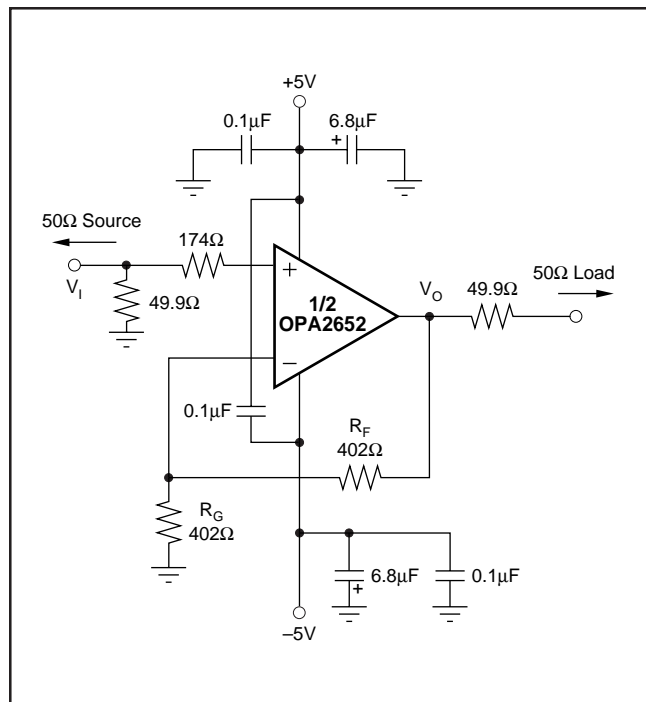
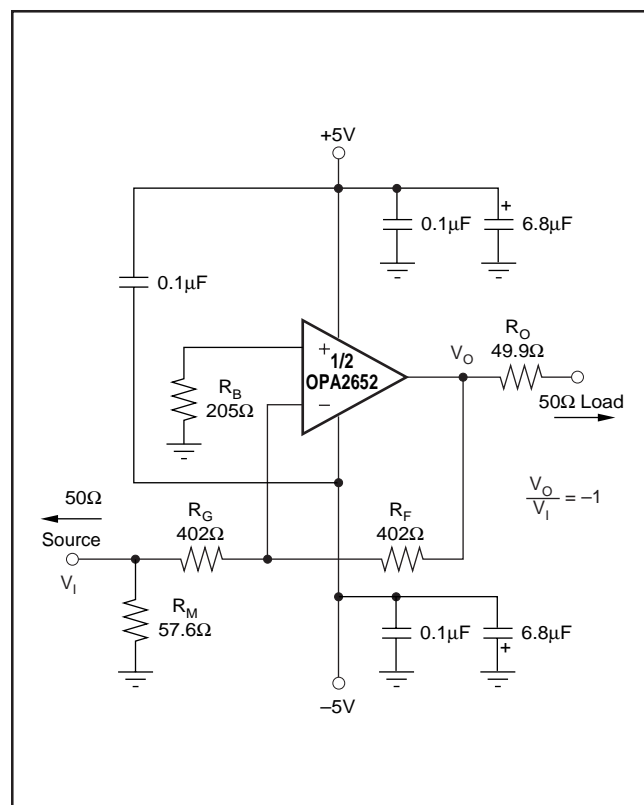

FIGURE 1. DC-Coupled,  $G = +2$ , Bipolar Supply, Specification and Test Circuit.
FIGURE 2. DC-Coupled,  $G = -1$ , Bipolar Supply, Specification and Test Circuit.
At  $T_A = +25^\circ C$ ,  $G = +2$ ,  $R_F = 402\Omega$ , and  $R_L = 100\Omega$ , unless otherwise noted. See Figures 1 and 2.
Figure 1 shows the DC-coupled, gain of +2, dual power supply circuit configuration used as the basis of the  $\pm 5\text{V}$  Specifications and Typical Performance Curves. This is for one channel. The other channel is connected similarly. For test purposes, the input impedance is set to  $50\Omega$  with a resistor to ground and the output impedance is set to  $50\Omega$  with a series output resistor. Voltage swings reported in the specifications are taken directly at the input and output pins, while output powers (dBm) are at the matched  $50\Omega$  load. For the circuit of Figure 1, the total effective load will be  $100\Omega \parallel 804\Omega$ . Two optional components are included in Figure 1.
Figure 2 shows the DC-coupled gain of  $-1$ , bipolar supply circuit configuration which is the basis of the Specifications and Typical Performance Curves at  $G = -1$ . The input impedance matching resistor ( $57.6\Omega$ ) used for testing gives a  $50\Omega$  input load. A resistor ( $205\Omega$ ) connects the non-inverting input to ground. This provides the DC source resistance matching to cancel outputs errors due to input bias current.
A good rule of thumb is to target the parallel combination of  $R_F$  and  $R_G$  (Figure 1) to be less than approximately  $300\Omega$ . The combined impedance  $R_F \parallel R_G$  interacts with the inverting input capacitance, placing an additional pole in the feedback network, and thus a zero in the forward response. Assuming a  $2pF$  total parasitic on the inverting node, holding  $R_F \parallel R_G < 300\Omega$  will keep this pole above  $250MHz$ . By itself, this constraint implies that the feedback resistor  $R_F$  can increase to several  $k\Omega$  at high gains. This is acceptable as long as the pole formed by  $R_F$  and any parasitic capacitance appearing in parallel is kept out of the frequency range of interest.
Voltage feedback op amps exhibit decreasing closed-loop bandwidth as the signal gain is increased. In theory, this relationship is described by the Gain Bandwidth Product (GBP) shown in the specifications. Ideally, dividing GBP by the non-inverting signal gain (also called the Noise Gain, or NG) will predict the closed-loop bandwidth. In practice, this only holds true when the phase margin approaches  $90^\circ$ , as it does in high gain configurations. At low gains (increased feedback factor), most amplifiers will exhibit a wider bandwidth and lower phase margin. The OPA2652 is compensated to give a flat response in a non-inverting gain of 1 (Figure 1). This results in a typical gain of +1 bandwidth of 700MHz, far exceeding that predicted by dividing the 200MHz GBP by  $NG = 1$ . Increasing the gain will cause the phase margin to approach  $90^\circ$  and the bandwidth to more closely approach the predicted value of  $(GBP/NG)$ . At a gain of +5, the 45MHz bandwidth shown in the Typical Specifications is close to that predicted using this simple formula.
Since the OPA2652 is a general purpose, wideband voltage feedback op amp, all of the familiar op amp application circuits are available to the designer. Inverting operation is one of the more common requirements and offers several performance benefits. Figure 2 shows a typical inverting configuration.
In the inverting configuration, three key design considerations must be noted. The first is that the gain resistor ( $R_G$ ) becomes part of the signal channel input impedance. If input impedance matching is desired (which is beneficial whenever the signal is coupled through a cable, twisted pair, long PC board trace or other transmission line conductor),  $R_G$  may be set equal to the required termination value and  $R_F$  adjusted to give the desired gain. This is the simplest approach and results in optimum bandwidth and noise performance. However, at low inverting gains, the resultant feedback resistor value can present a significant load to the amplifier output. For an inverting gain of  $-1$ , setting  $R_G$  to  $50\Omega$  for input matching eliminates the need for  $R_M$  but requires a  $50\Omega$  feedback resistor. This has the interesting advantage that the noise gain becomes equal to 2 for a  $50\Omega$  source impedance—the same as the non-inverting circuits considered above. However, the amplifier output will now see the  $50\Omega$  feedback resistor in parallel with the external load. In general, the feedback resistor should be limited to the  $200\Omega$  to  $1.5k\Omega$  range. In this case, it is preferable to increase both the  $R_F$  and  $R_G$  values as shown in Figure 2, and then achieve the input matching impedance with a third resistor ( $R_M$ ) to ground. The total input impedance becomes the parallel combination of  $R_G$  and  $R_M$ .
The second major consideration, touched on in the previous paragraph, is that the signal source impedance becomes part of the noise gain equation and influences the bandwidth. For the example in Figure 2, the  $R_M$  value combines in parallel with the external  $50\Omega$  source impedance, yielding an effective
driving impedance of  $50\Omega \parallel 57.6\Omega = 26.8\Omega$ . This impedance is added in series with  $R_G$  for calculating the noise gain (NG). The resultant NG is 1.94 for Figure 2, (an ideal  $0\Omega$  source would cause  $NG = 2.00$ ).
The third important consideration in inverting amplifier design is setting the bias current cancellation resistor on the non-inverting input ( $R_B$ ). If this resistor is set equal to the total DC resistance looking out of the inverting node, the output DC error, due to the input bias currents, will be reduced to  $(\text{Input Offset Current}) \cdot R_F$ . If the  $50\Omega$  source impedance is DC-coupled in Figure 2, the total resistance to ground on the inverting input will be  $429\Omega$ . Combining this in parallel with the feedback resistor gives  $208\Omega$ , which is close to the  $R_B = 205\Omega$  used in Figure 2. To reduce the additional high frequency noise introduced by this resistor, it is sometimes bypassed with a capacitor. As long as  $R_B < 300\Omega$ , the capacitor is not required since its total noise contribution will be much less than that of the op amp's input noise voltage.
The OPA2652 provides good distortion performance into a 100Ω load on ±5V supplies. Increasing the load impedance improves distortion directly. Remember that the total load includes the feedback network; in the non-inverting configuration (Figure 1) this is sum of  $R_F + R_G$ , while in the inverting configuration, it is just  $R_F$ . Also, providing an additional supply decoupling capacitor (0.1μF) between the supply pins (for bipolar operation) improves the 2nd-order distortion slightly (3dB to 6dB).
Evaluating these two equations for the OPA2652 circuit and component values shown in Figure 1 will give a total output spot noise voltage of  $17\text{nV}/\sqrt{\text{Hz}}$  and a total equivalent input spot noise voltage of  $8.4\text{nV}/\sqrt{\text{Hz}}$ . This is including the noise added by the bias current cancellation resistor (205Ω) on the non-inverting input. This total input-referred spot noise voltage is only slightly higher than the  $8\text{nV}/\sqrt{\text{Hz}}$  specification for the op amp voltage noise alone. This will be the case as long as the impedances appearing at each op amp input are limited to the previously recommend maximum value of 300Ω. Keeping both ( $R_F \parallel R_G$ ) and the non-inverting input source impedance less than 300Ω will satisfy both noise and frequency response flatness considerations. Since the resistor-induced noise is relatively negligible, additional capacitive decoupling across the bias current cancellation resistor ( $R_B$ ) for the inverting op amp configuration of Figure 2 is not required.
The balanced input stage of a wideband voltage feedback op amp allows good output DC accuracy in a wide variety of applications. Although the high speed input stage does require relatively high input bias current (typically 4μA out of each input terminal), the close matching between them may be used to significantly reduce the output DC error caused by this current. This is done by matching the DC source resistances appearing at the two inputs. This reduces the output DC error due to the input bias currents to the offset current times the feedback resistor. Evaluating the configuration of Figure 1, using worst-case +25°C input offset voltage and current specifications, gives a worst-case output offset voltage equal to:
As an example, compute the maximum  $T_J$  using an OPA2652E (SOT23-8 package) in the circuit of Figure 1 operating at the maximum specified ambient temperature of  $+85^{\circ}\text{C}$  and with both outputs driving  $2.5\text{V}_{\text{DC}}$  into a grounded  $100\Omega$  load.